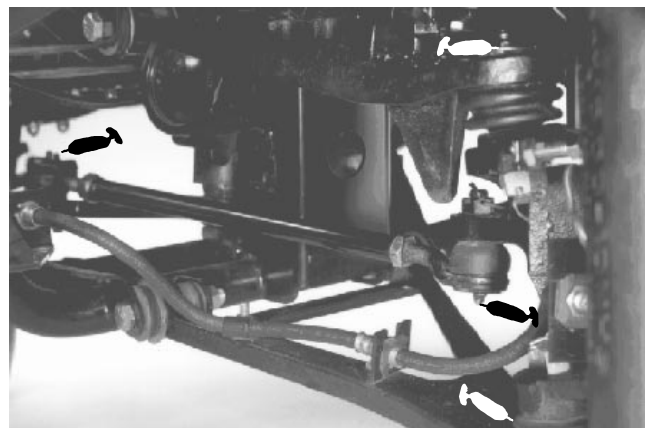
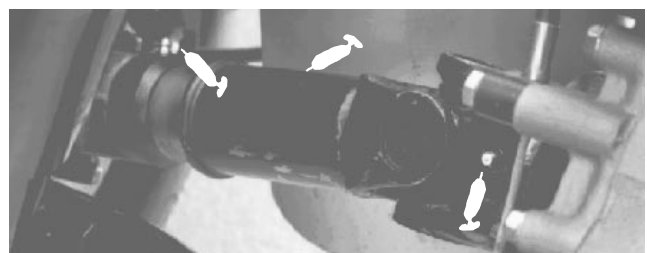

Figure 24
Figure 25
(Fig. 24–29)
The grease fitting locations and quantities are: Tie rod ends (4) (Fig. 24), Front ball joints (4) (Fig. 24), Rear drive shafts (18) (Fig. 25) Front pivot bushings (2) (Fig. 26); Pedal Pivots (4) (Fig. 27); Steering shaft (1) (Fig. 28) and Accelerator Arm (1) (Fig. 29).